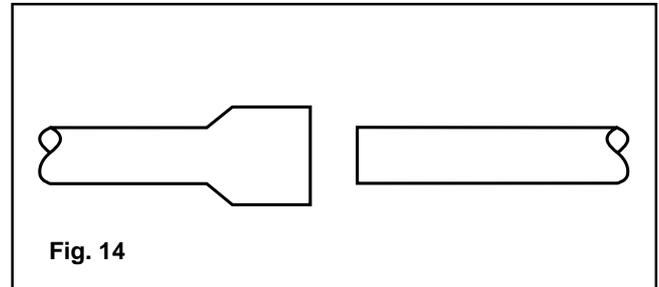
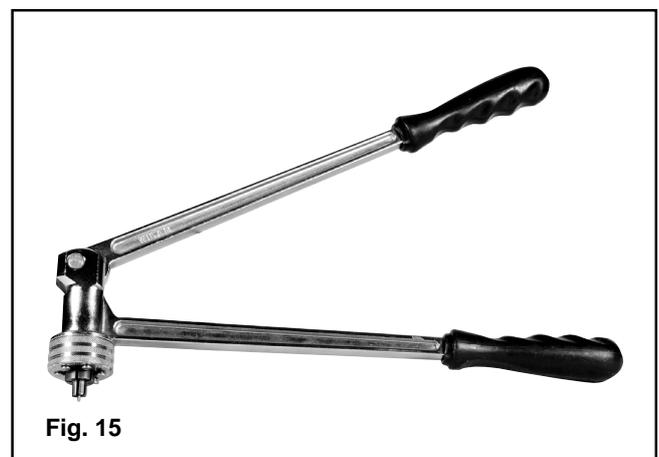

Fig. 14
Fig. 15
**Figure 14**, shows how a joint is made between two copper pipes by brazing. As can be seen, a dimple of about 2/3 the diameter of the pipe has been made in one of the pipes which on which the other is fitted. Since the space between the two pipes must be on the order of a tenth of a millimetre, it is necessary to make the dimple using special contouring tools available on the market (**figure 15**).